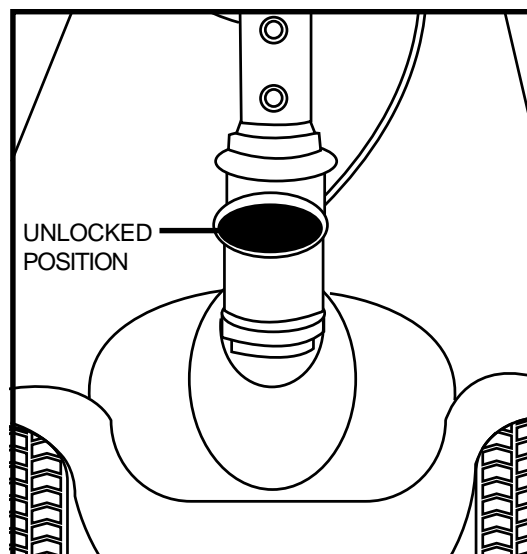

Figure 18. Tiller Lock Knob (Unlocked)
6. Unlock the front wheel by turning the tiller lock knob 90° counterclockwise. **See figure 18.**